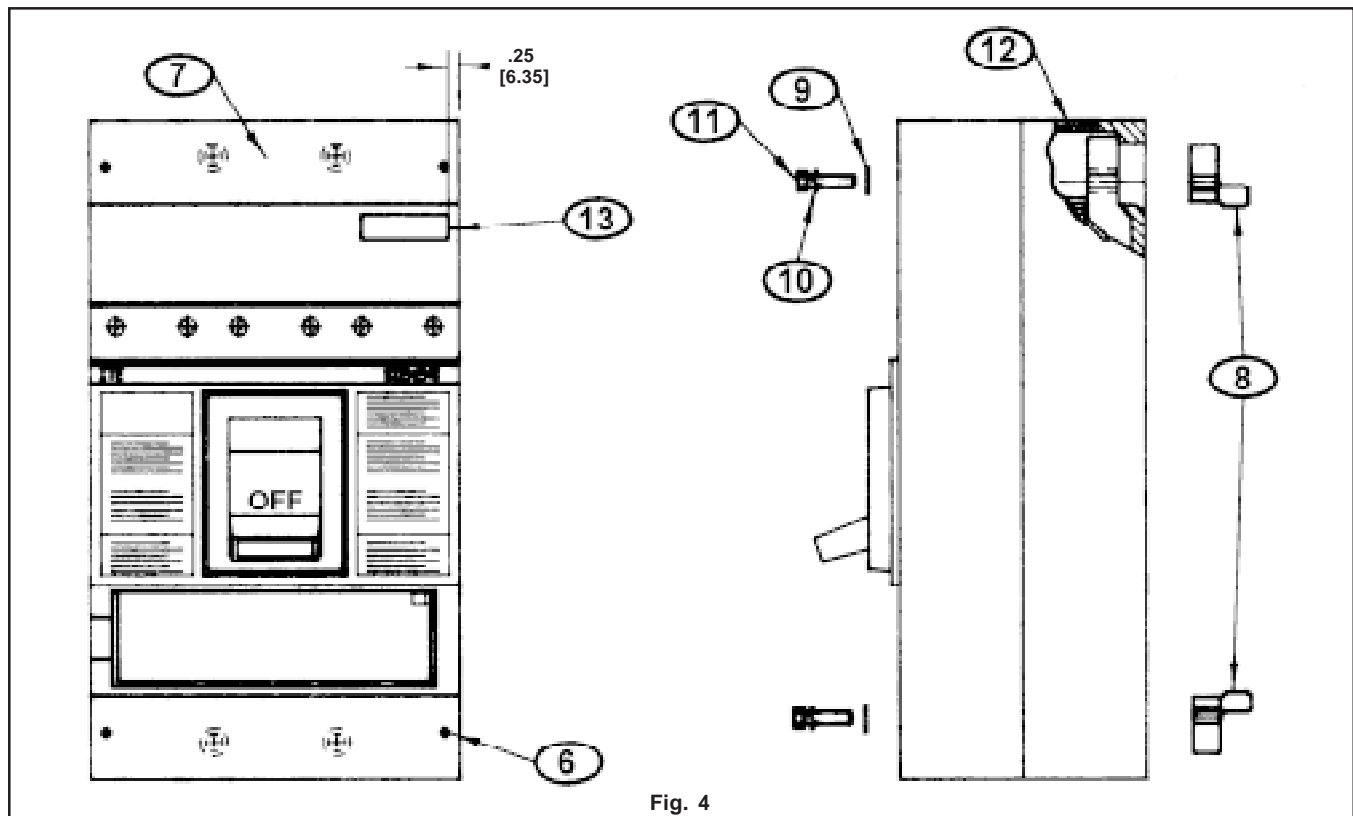

Fig. 4
BREAKER PREPARATION: Fig. 4
6. Loosen four breaker terminal shields screws (6) and remove both line and load side terminal shields (7).
7. Place terminal stabs (8) on back of breaker in recess provided in base molding. Secure in place with 5/16-18 hex head bolts (11)
8. **INSERT END SHIELDS (12) INTO SLOTS PROVIDED AT LINE AND LOAD END OF BREAKER.**
9. Affix label (13) to front of circuit breaker as shown in Fig. 4.